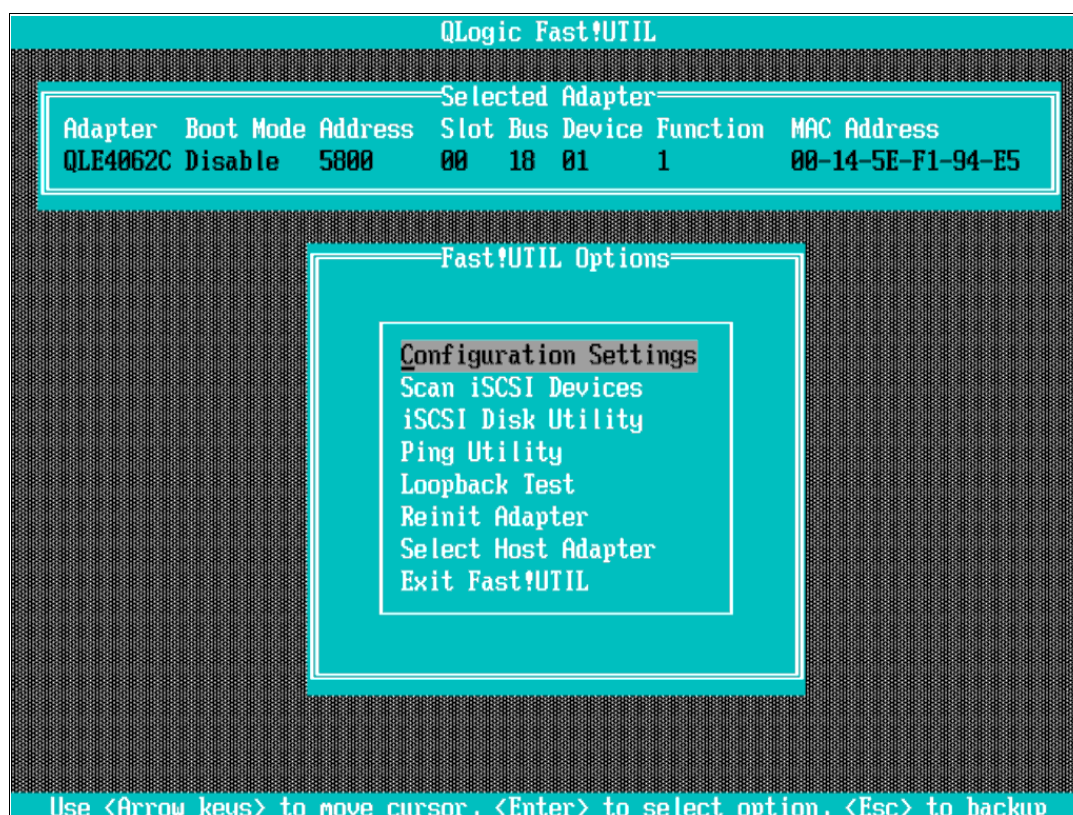
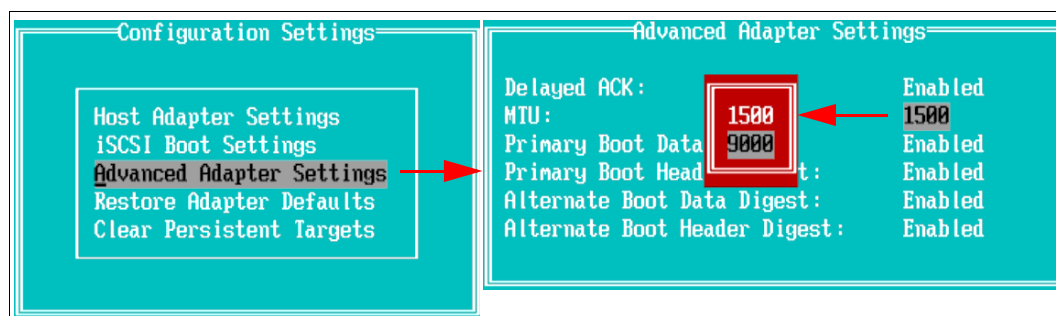

Figure 5-20 Fast!UTIL Options menu window
Figure 5-23 MTU size setting
- From the QLogic Fast!UTIL menu, select the first host bus adapter port (port 0) and press Enter. You see a window similar to Figure 5-20.
- From the Fast!UTIL Options window (Figure 5-20 on page 226), select **Configuration Settings** and press Enter. From the same window, select **Host Adapter Settings** and press Enter to input the HBA configuration parameters, which must be specified before any targets can be configured. You see a window similar to Figure 5-21.
8. If you need to change the MTU size to jumbo frames, go from the *Configuration Settings* menu to *Advanced Adapter Settings* as in Figure 5-20 on page 226 and change the *MTU* value to *9000* (see Figure 5-23 here). You have the choice of 1500 and 9000 only.
9. Going back to the *Fast!Util Options* window (Figure 5-20 on page 226) and choosing **Scan iSCSI Devices** will force the HBA to log into the DS5000 controller. That helps later when doing storage partitioning in “Step 2: DS5000 storage provisioning”.